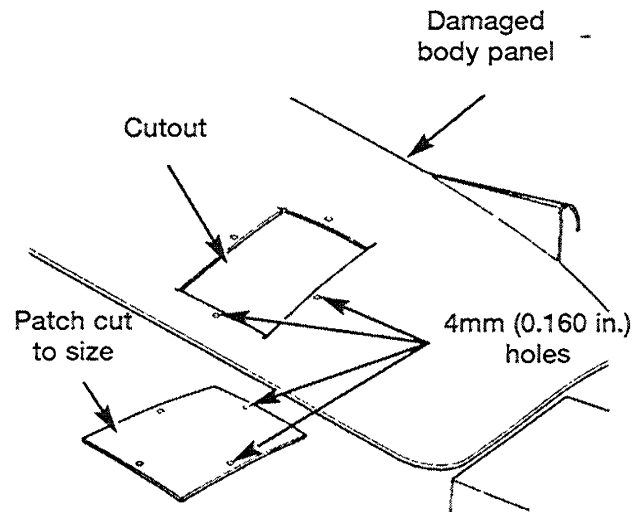

Fig. 1 Damaged Panel Cutout and Patch
An RTM or SMC panel that has extensive puncture type damage can be repaired by cutting out the damaged material (Fig. 1). Use a suitable reciprocating saw or cut-off wheel to remove the section of the SMC or RTM panel that is damaged. The piece cut out can be used as a template to shape the new patch. It is not necessary to have access to the back of the panel to install a patch. Bevel edges of cutout at 20 degrees to expose a larger bonding area on the outer side. This will allow for an increased reinforcement area.
5. Drill 4mm (0.160 in.) holes 13mm (0.5 in.) in from edge of cutout hole (Fig. 1).
6. Drill 4mm (0.160 in.) holes 13mm (0.5 in.) away from edge of patch across from holes drilled around cutout (Fig. 1).